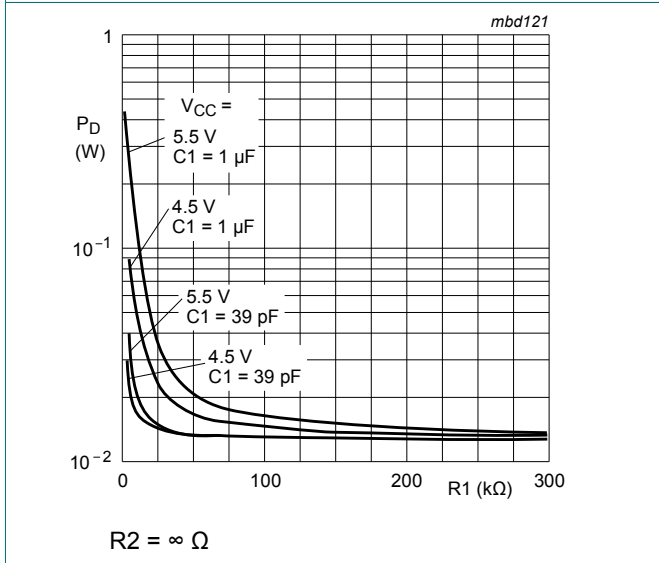
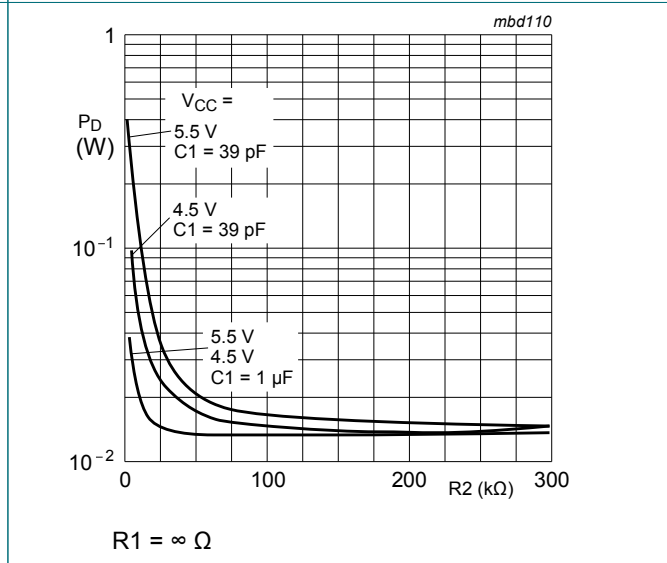
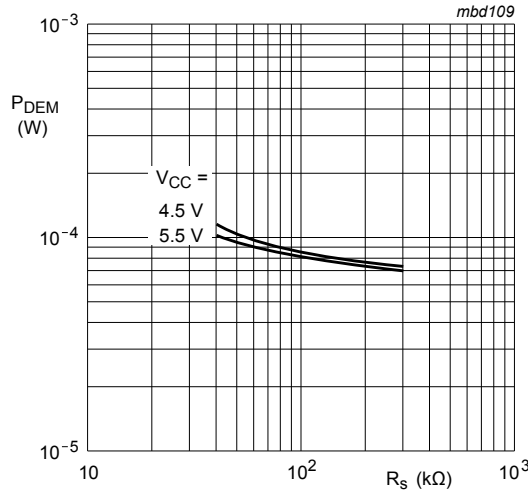

Fig. 28. Power dissipation as a function of $R1$
Fig. 29. Power dissipation as a function of $R2$
Fig. 30. Typical power dissipation as a function of R_s
- [6] Applies to the phase comparator section only (pin INH = HIGH). For power dissipation of the VCO and demodulator sections, see Fig. 28, Fig. 29 and Fig. 30.